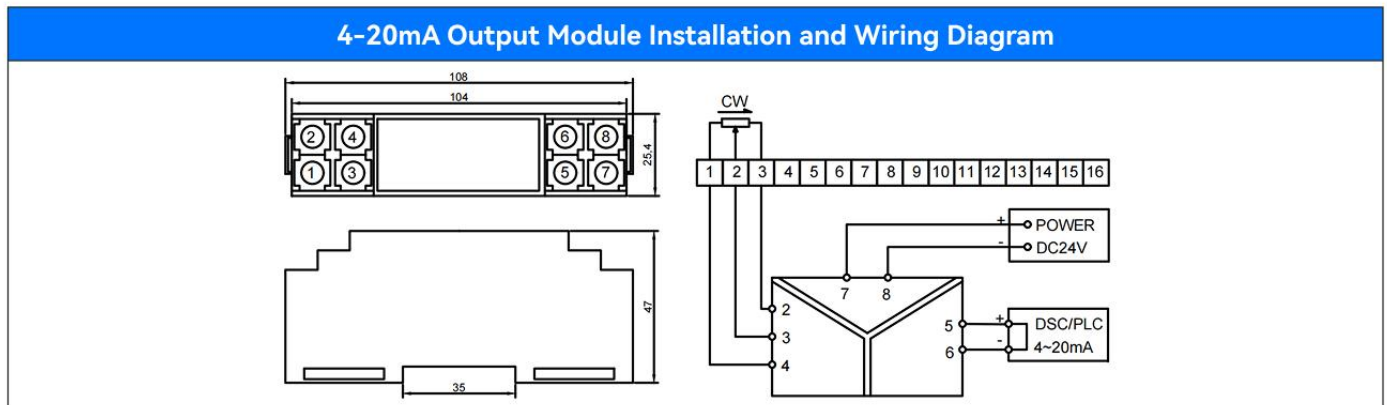

Figure 2.5
4. 4~20mA output signal: The output signal of the handwheel is the default output of the potentiometer. If a 4~20mA signal is required, an additional circuit board needs to be installed and the signal calibration should be completed before leaving the factory. Generally, the correspondence between the output signal and the scale is as follows: 35 degrees on the left corresponds to a 4mA output, 0 on the scale corresponds to a 12mA output, and 35 degrees on the right corresponds to a 20mA output. The wiring diagram is shown in Figure 2.5.